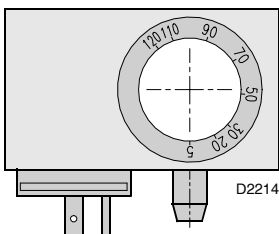

Fig. 21
- adjust the minimum gas pressure switch (Fig. 21) on the gas train, at the start of the scale;